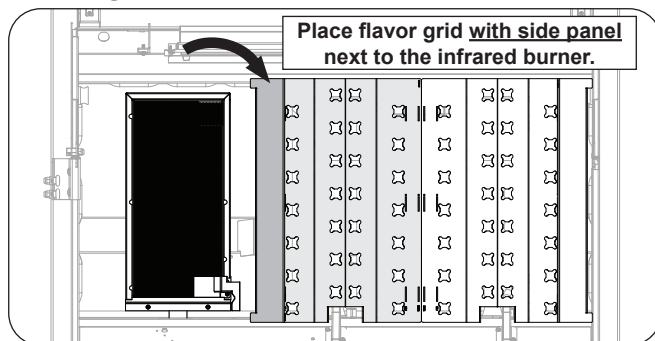

Fig. 39-4 Flavor grids - A430 & A540 models
**For A430 & A540 models, place the flavor grid with side panel to the right of the infrared burner as shown in Fig. 39-4.**